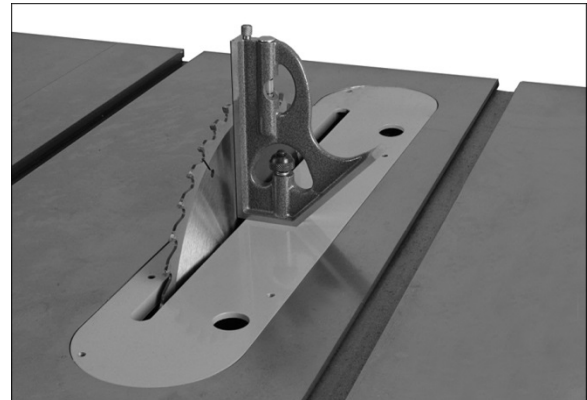

Figure 19
3. Raise blade all the way and place a 90° square on the table and against blade (Figure 19). Make sure that a blade tooth does not obstruct the actual reading.